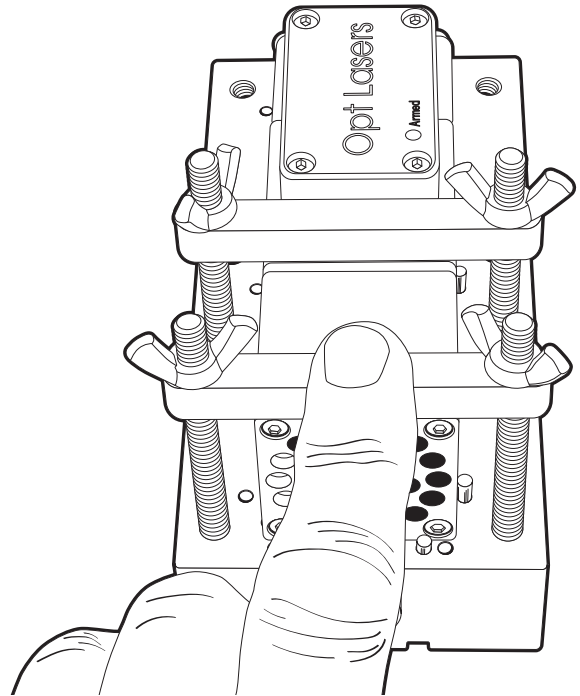

FIGURE 9—Use your finger to apply pressure to center of the hold-down clamps
- With your finger, apply pressure to the center of the hold downs (see Figure 9). This will ensure that the hold downs are square to the laser body. Now, slowly tighten each wing nut (alternating from one to the other) so they are both exerting the same amount of pressure on the hold down. When you have even pressure on both wing nuts, tighten them a bit more (just enough to keep the laser from moving).